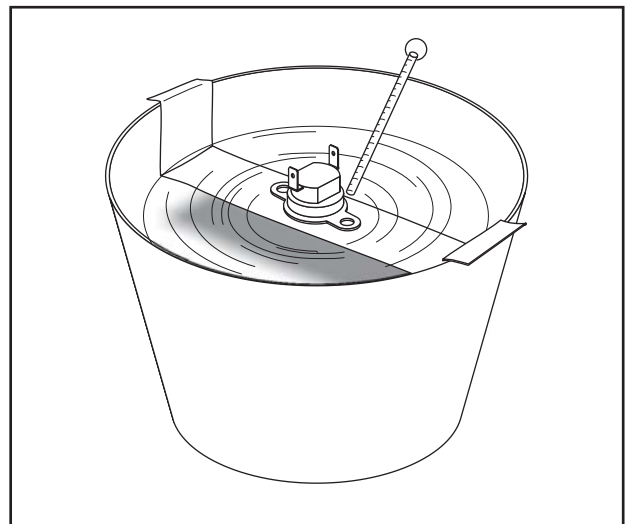

Figure 28. Testing the Oil Temperature Switch
7. Immerse the sensing tip of the switch in oil as shown in Figure 28, along with a suitable thermometer.